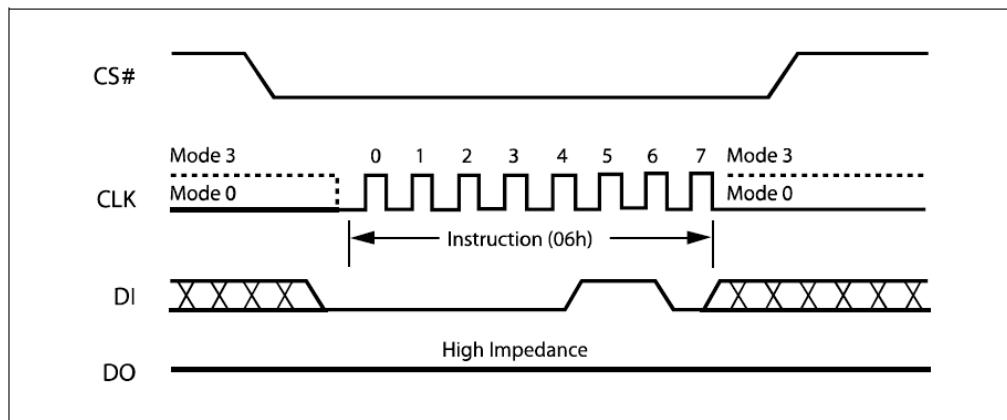

Figure 8. Write Enable Instruction Sequence Diagram
The Write Enable (WREN) instruction (Figure 8) sets the Write Enable Latch (WEL) bit. The Write Enable Latch (WEL) bit must be set prior to every Page Program (PP), Quad Input Page Program (QPP), Sector Erase (SE), Block Erase (HBE/BE), Chip Erase (CE) and Write Status Register (WRSR/WRSR3) instruction.